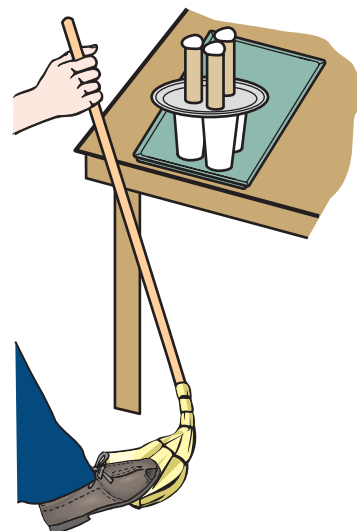

Figure 3.
14. Pull back on the broom handle like a lever. See Figure 3.